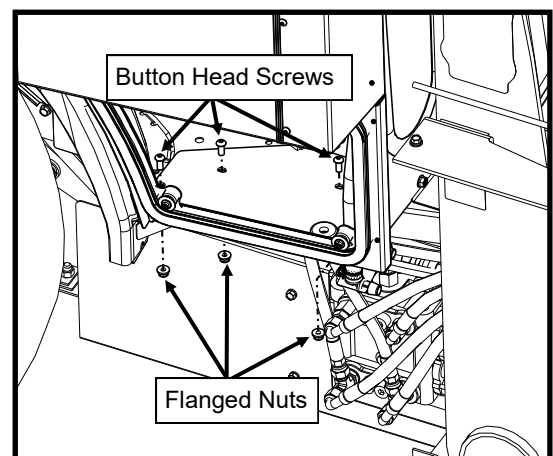

Figure 6.5: Side Frame to Floor Board Bolts
6.5 Fasten the side frame to the floor board (see Figure 6.5). Leave hardware loose.